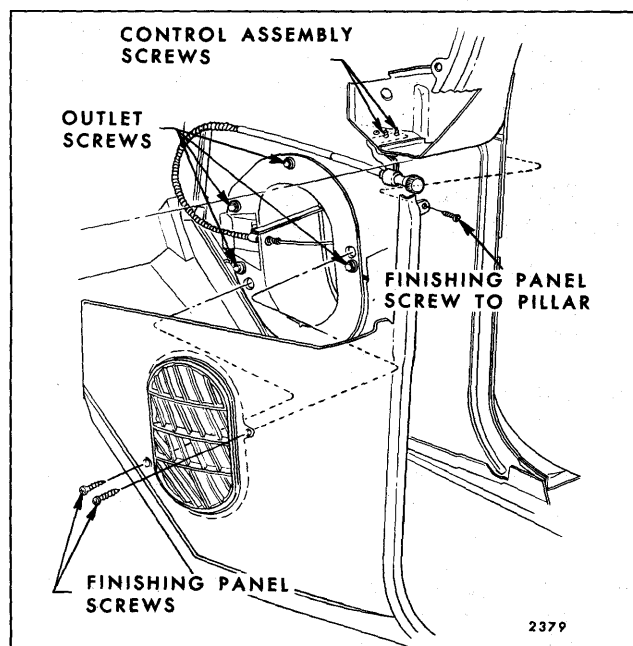

Fig. 5-2—Shroud Side Finishing Panel - "B, C & E" Except 26657
2. Remove finishing panel to hinge pillar attaching screw (Fig. 5-2).
3. Remove screws securing the shroud side finishing panel to the air outlet duct assembly (Fig. 5-2).
3. Remove screws securing outlet duct assembly to shroud ventilator duct side panel (Fig. 5-2) and remove assembly.
4. Remove screws securing control assembly to instrument panel (Fig. 5-2) and remove control assembly.